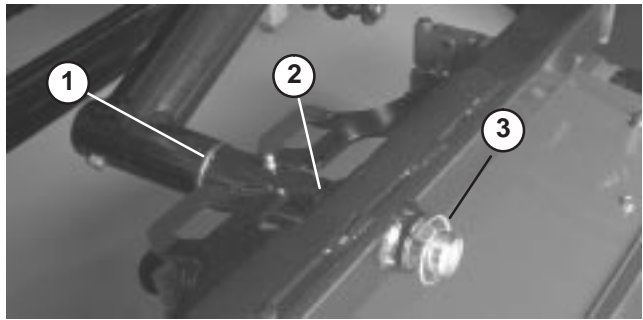

Figure 19
2. Slide cutting unit carrier frame onto pivot rod and secure with a lynch pin (Fig. 19).